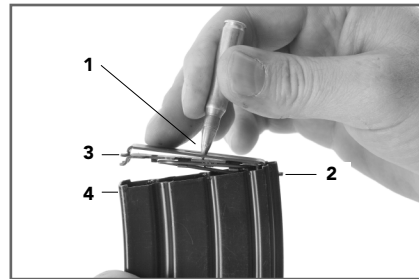

Fig. 61
To disassemble the magazine for cleaning or inspection, push in the locking plate (1) with a cleaning rod, or cartridge. As you depress the locking plate through the window of the floor plate, pull back towards the rubber bumper (where applicable) (2) so the locking tab (3) will exit the locking window (4) of the housing. When the locking tab lifts up, the floor plate (5), locking plate (6), spring (7) and follower (8). The floor plate is easily removed from the locking plate, which is attached to the spring and follower. Take note as to the arrangement of these parts for assembly. For cleaning purposes, it is not necessary to disassemble the follower and locking plate from the spring (Fig. 61 and 62).